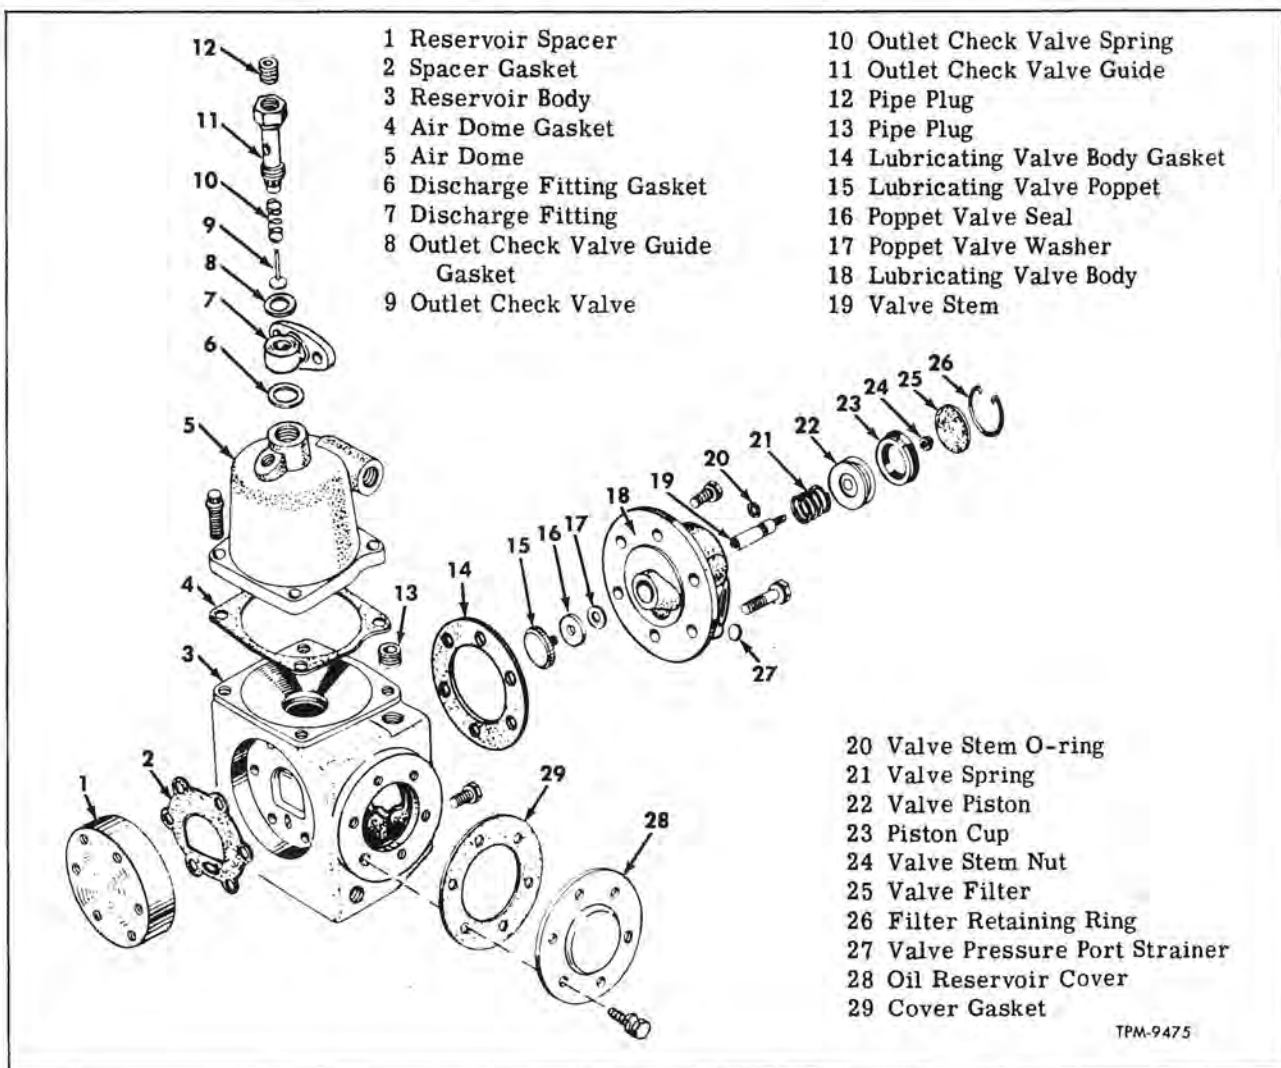

Figure 4—Air Dome, Reservoir, and Lubricating Valve Components
To check and adjust pressures at which the control valve stops and starts the pumping cycle, remove pipe plug (12, fig. 4) from outlet check valve guide and connect a test air pressure gauge to this port.
4. Remove pipe plug (13, fig. 4) from upper rear corner of oil reservoir and pour a sufficient amount of oil (same as used in engine) into the reservoir to provide initial compressor lubrication.
10. If oil reservoir was drained, remove pipe plug (13, fig. 4) and pour a sufficient amount of oil (same as used in engine) into the reservoir to provide initial compressor lubrication.
(Key Numbers in Text Refer to Figure 4)